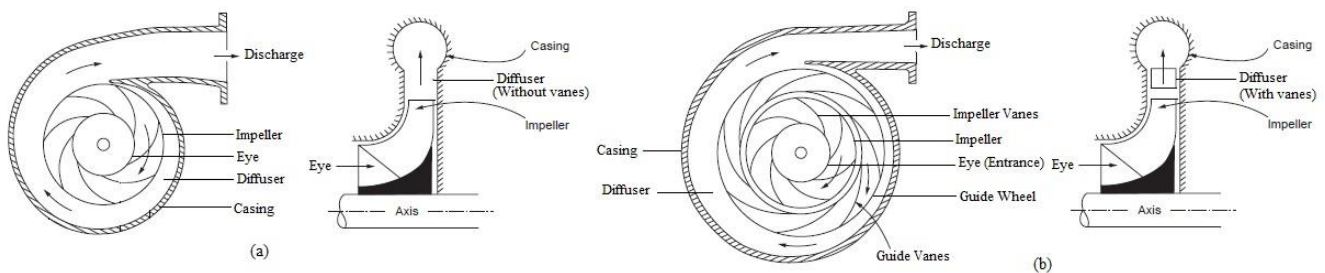

Fig. 7.7 Types of diffusers
**7.9.1 Vaneless Diffuser:** In this type, the diffusion process will take place in the vaneless space around the impeller before the air leaves the compressor stage through volute casing. A vaneless diffuser is shown in figure 7.7 (a). A vaneless diffuser has wide range of mass flow rate. But for a large reduction in the outlet kinetic energy, diffuser with a large radius is required. Because of long flow path with this type of diffuser, friction effects are important and the efficiency is low.
**7.9.2 Vanned Diffuser:** In the vanned diffuser as shown in figure 7.7 (b), the vanes are used to diffuse the outlet kinetic energy at a much higher rate, in a shorter length and with a higher efficiency than the